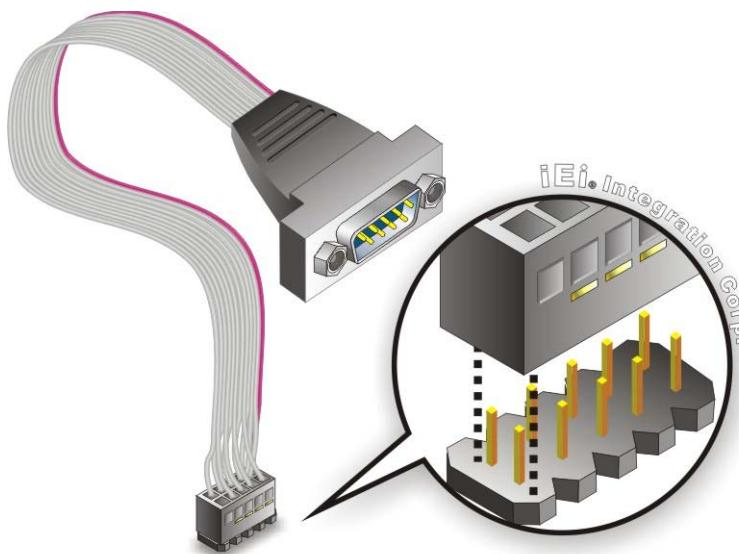

Figure 4-5: Single RS-232 Cable Installation
Step 2: Insert the cable connector. Insert the connector into the serial port box header. See Figure 4-5. A key on the front of the cable connectors ensures the connector can only be installed in one direction.